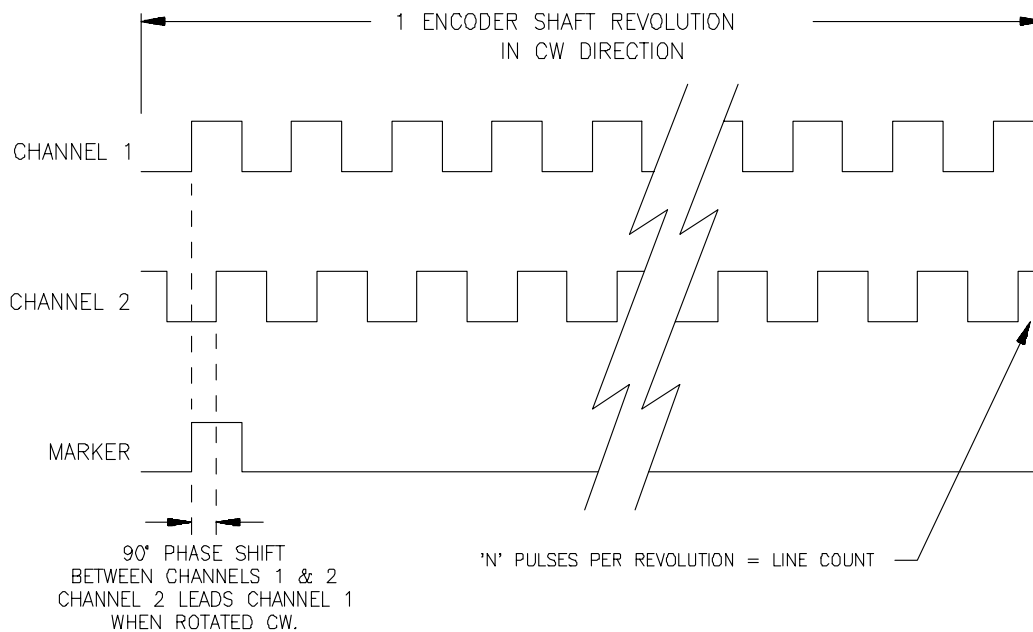

Figure 1 - Standard Encoder Output Channels Relationship
The EFC-240X takes encoder positional information and transmits this information serially through the C-966YYY fiber optic cable. Typically, only one fiber optic transmitter (U9) is present on the EFC-240X, but, depending on the application, up to eight fiber optic transmitters are available (see Figure 1). All of the fiber optic transmitters transfer the same data.
On power up, information is not transmitted until a marker pulse is observed. At this time, two bytes of positional information are transmitted every millisecond. The 16-position selector switch (see Figure 1) determines the encoder line count according to the information in given in Table 1. A single red LED (see Figure 1) is lit when a marker error is present. Marker errors consist of a missing marker or missing encoder counts.
23. Slowly rotate the encoder shaft. The CH1 and CH2 LEDs on the EFC-240X should toggle on and off with slow rotations of the shaft (see **Figure 1**). The M LED should pulse on at 0 .